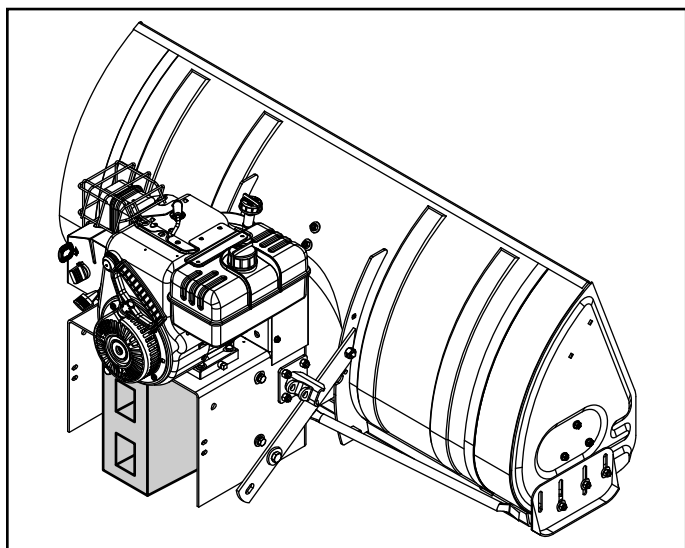

FIGURE 10
11. Place a 15" concrete block underneath the snow thrower, beneath the engine. See figure 10.